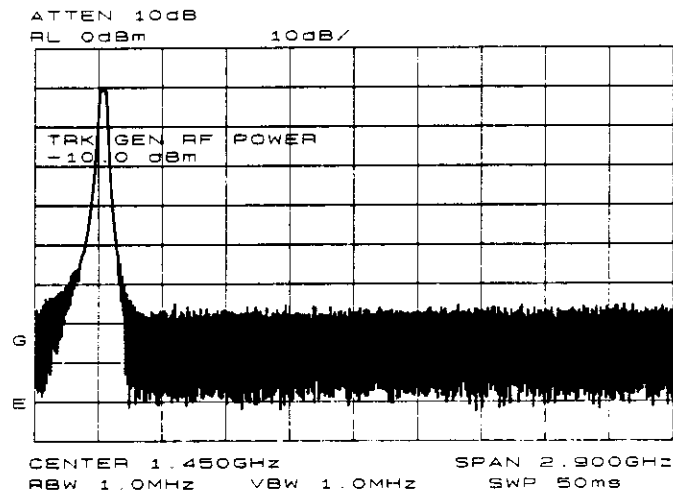

Figure 3-18. Tracking-generator output power activated.
1. Activate the tracking generator menu by pressing **AUX CTRL**, then **TRACKING GENRATOR**. The tracking-generator output power is then displayed in the active function block. Since the filter (DUT) is not particularly sensitive, an output power of -10 dBm should not damage it. To activate the tracking-generator power level, press **SRC PWR ON OFF** until ON is selected. See Figure 3-18.